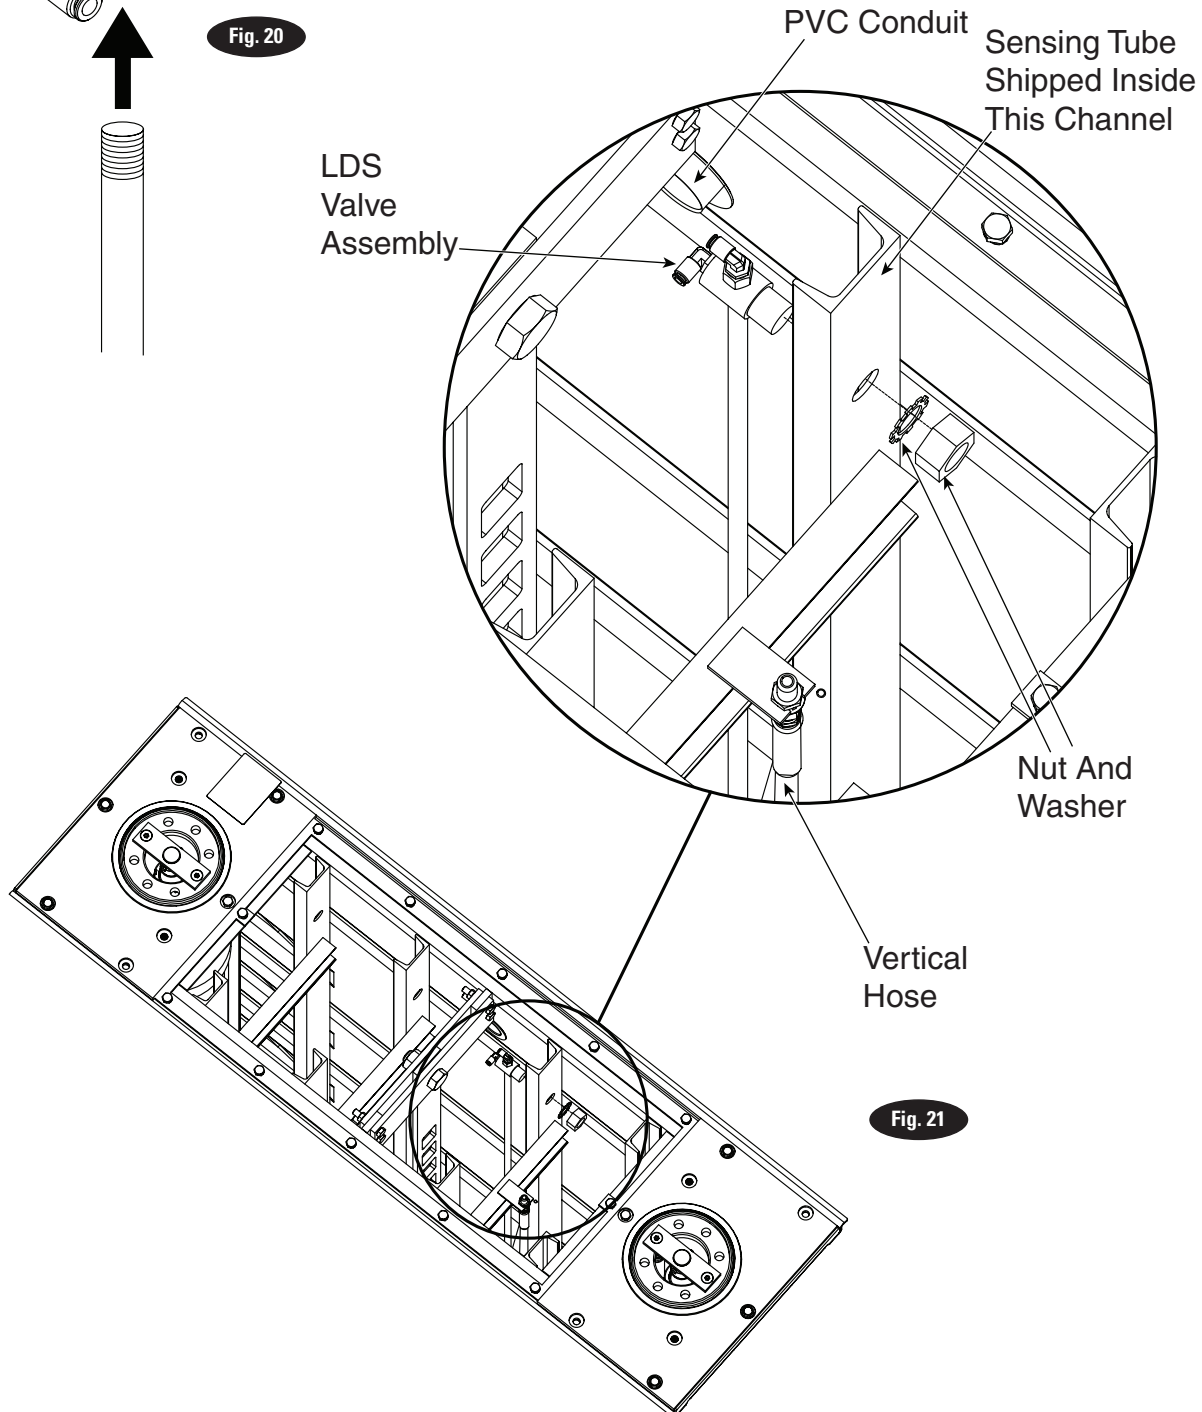

Fig. 21
3. Install LDS system onto the channel that the sensing tube was shipped in, making sure to place sensing tube inside wire ties, Fig. 21.